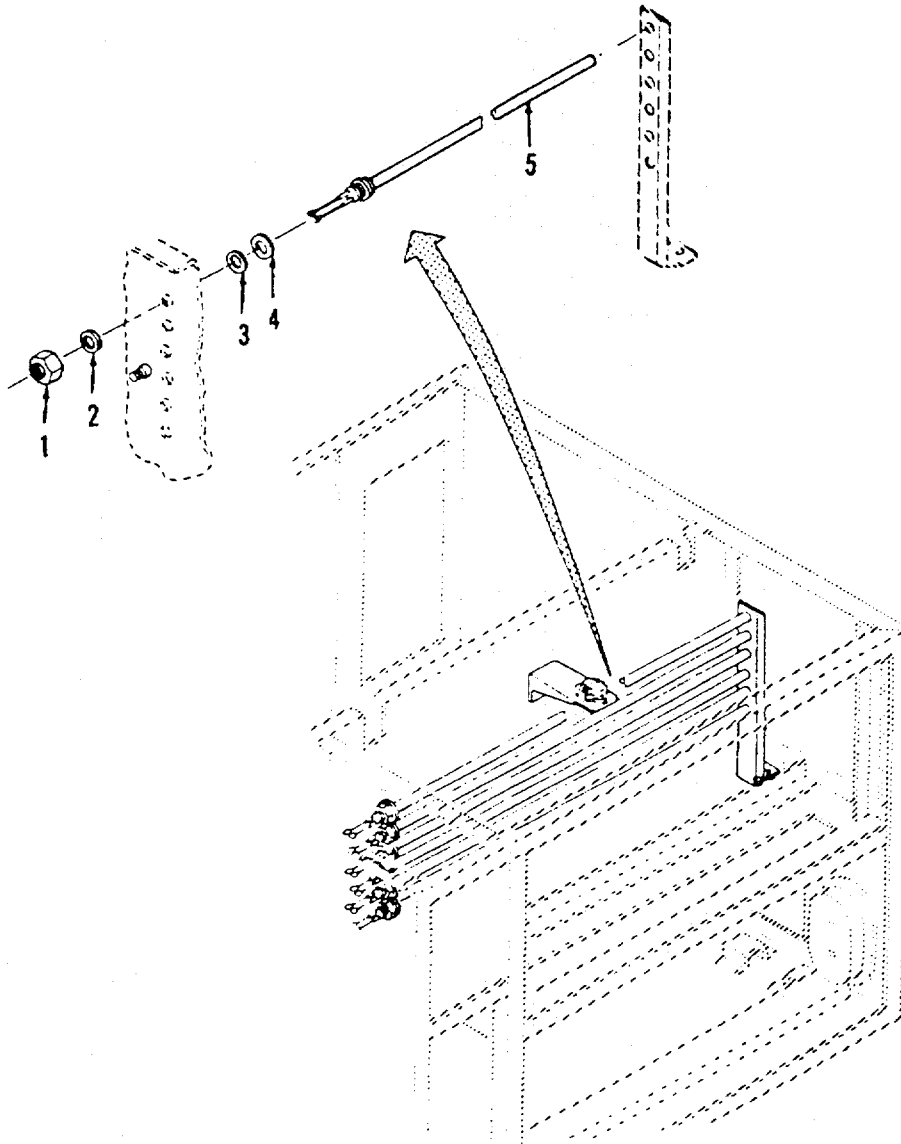

Figure 3-18. Heating Elements.
- a. **Removal.** (Refer to Figure 3-18).